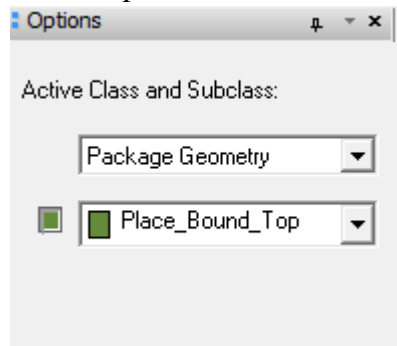

Fig. 8
2. Choose 'Package Geometry' from the top drop-down menu and choose 'Place_Bound_Top' in the bottom drop-down menu, as shown in fig. 8.